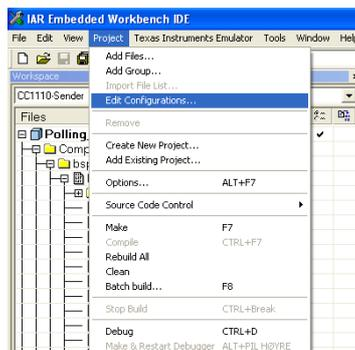

Figure 4. Edit Configuration
- Select **Edit Configuration** in the **Project** pull-down menu (see Figure 4).